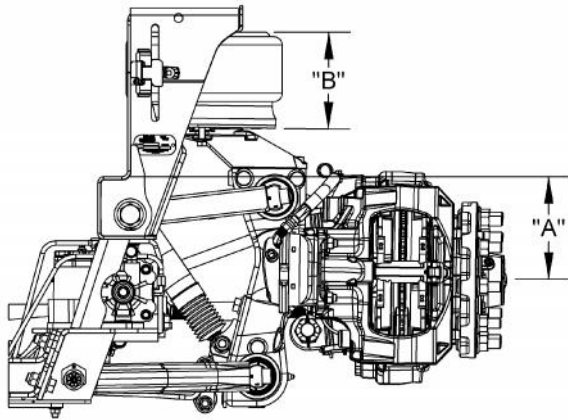

Figure 8 - Ride Height Measurement
3. Verify the ride height by measuring from wheel center to the bottom of the frame ("A") or air spring height ("B"). If the dimensions are not within +/- .125" (**Figure 8**), readjust.
4. The actuation arm of the height control valve should be horizontal at ride height (**Figure 8**). See section for adjusting to correct ride height.